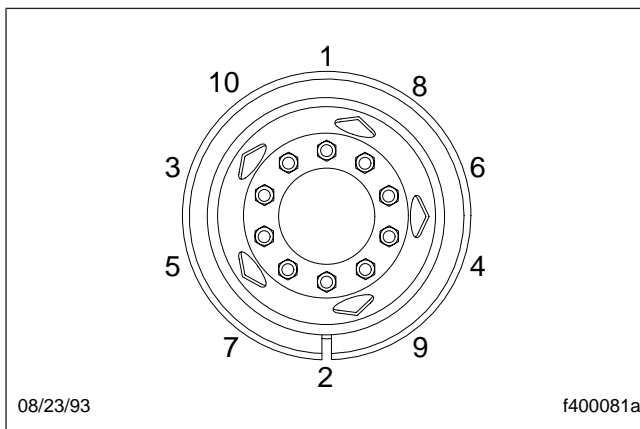
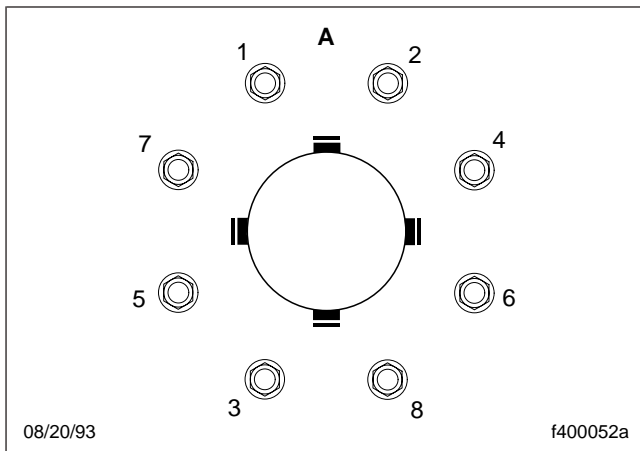

Fig. 11.10, Tightening Pattern, 10-Hole Wheels
Fig. 11.11, Tightening Pattern, 8-Hole Wheels
- 20.4 Make sure all wheel nuts are tightened 450 to 500 lbf-ft (610 to 678 N-m) for Accuride wheels with unlubricated threads. Use the tightening pattern in Fig. 11.10 for 10-hole wheels, and the tightening pattern in Fig. 11.11 for 8-hole wheels. See **Group 40** of the *Heavy-Duty Trucks Service Manual* for more information.